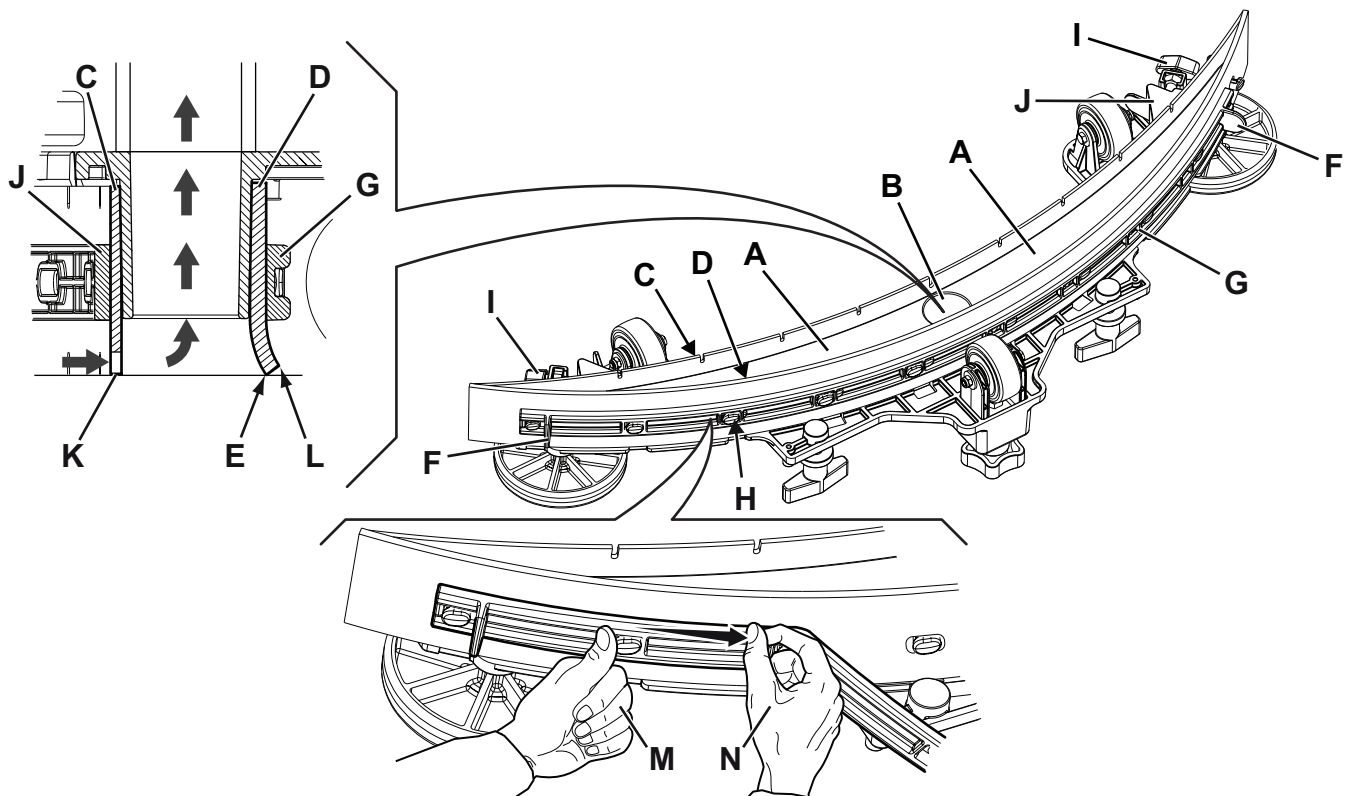

Figure 11
2. Ensure that the machine is off and the user key (52) has been removed.
3. Loosen the handwheels (32) and remove the squeegee (13).
4. Wash and clean the squeegee. In particular, clean the compartments (A, Fig. 11) and the vacuum hole (B). Check the condition of the front (C) and rear (D) blades, ensuring there are no cuts and tears; if necessary, replace them as shown below.
2. Check the condition of the front (C, Fig. 11) and rear (D) blades, ensuring there are no cuts and tears; if necessary, replace them as shown below. Check that the front corner (E) of the rear blade is not worn; otherwise, turn the blade to replace the worn corner with one of the three remaining intact corners. If the other corners are worn too, replace the blade according to the following procedure:
- Using the tab (F), release and remove the elastic strap (G) from the fasteners (H), then turn or replace the rear blade (D).
- Install the blade in the reverse order of removal. Fasten the elastic strap (G) to the fasteners (H) starting from one side. To make the fastening procedure easier, secure the fasteners one at a time, by locking the strap before the fastener with one hand (M) and pulling it with the other hand (N).
- Unscrew the handwheels (I) and remove the strap (J), then turn or replace the front blade (C).
3. Install the squeegee (13) and screw down the handwheels (32).
- Check that the lip (K) of the front blade (C) and the lip (L) of the rear blade (D) are resting as shown in the figure.
- Use the knob (33) to make adjustments.